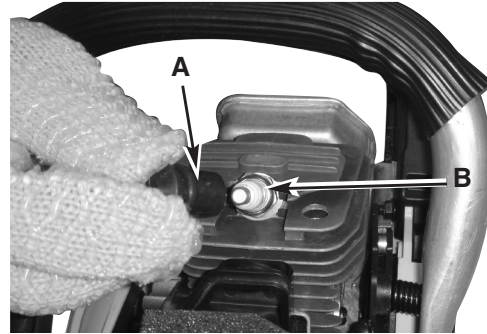

Fig. 39
3. Disconnect the wire connector (A) from the spark plug (B) by pulling and twisting at the same time (Fig. 39).